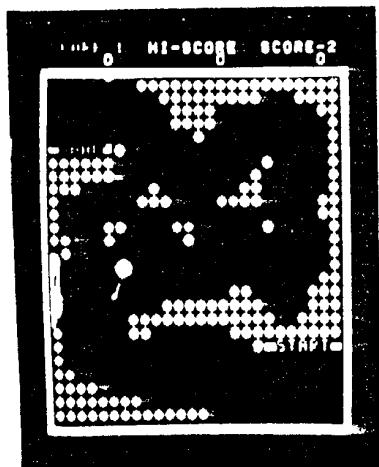

Fig. 16
- ④ A white face will appear at the left hand side of the screen in the LEVEL-1 pattern. The computer controlled balloon will move to the top right hand side of the screen while being blown by the wind. After a lapse of several seconds a second face will appear at the right hand side of the screen and blow the balloon about until it bursts (Fig. 16).